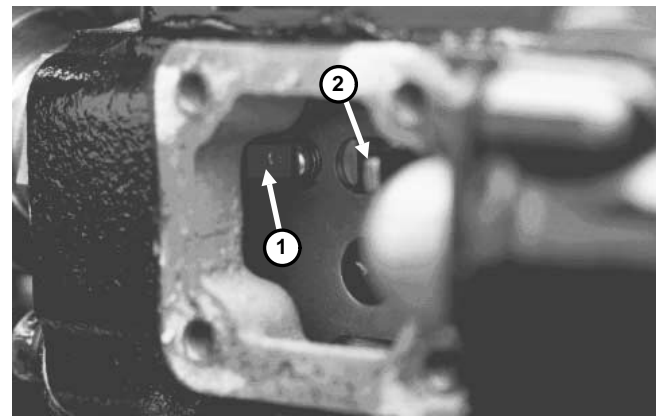

Figure 44
4. Thread the solenoid into the engine while moving the tie rod back and forth (Fig. 44). Stop screwing the solenoid into the engine when there is no free play in the tie rod.